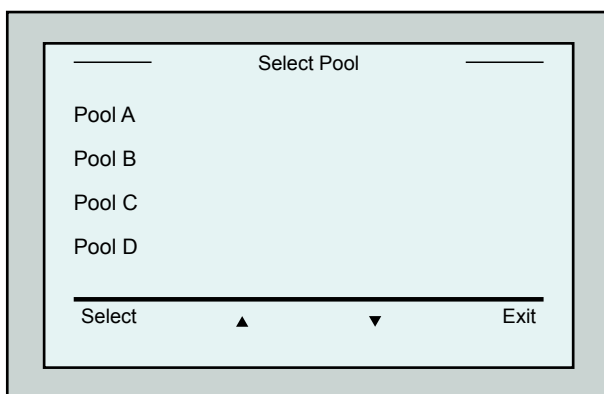

Figure 9: *Pool Profile* screen
2. From the *Wave* screen, press **Pool A**. The *Pool Profile* screen opens (Figure 9).